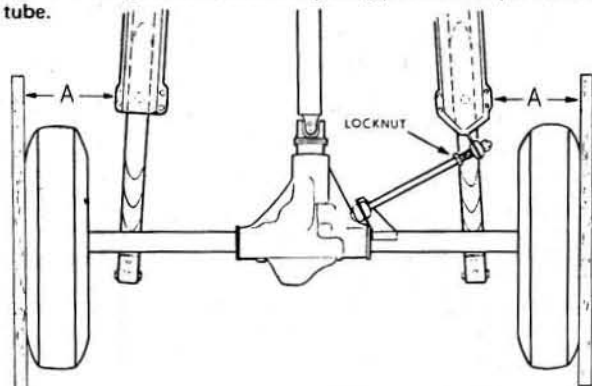

Fig.11.22. Adjustment of the panhard rod
- 10 Now refer to Fig.11.22 for adjustment of the panhard rod.
- 12 Place a straightedge across one rear tyre and measure the distance from the straightedge to the flange of the chassis side member between the two bolts on the member as shown at "A" in Fig.11.22. Repeat for the other side of the car.